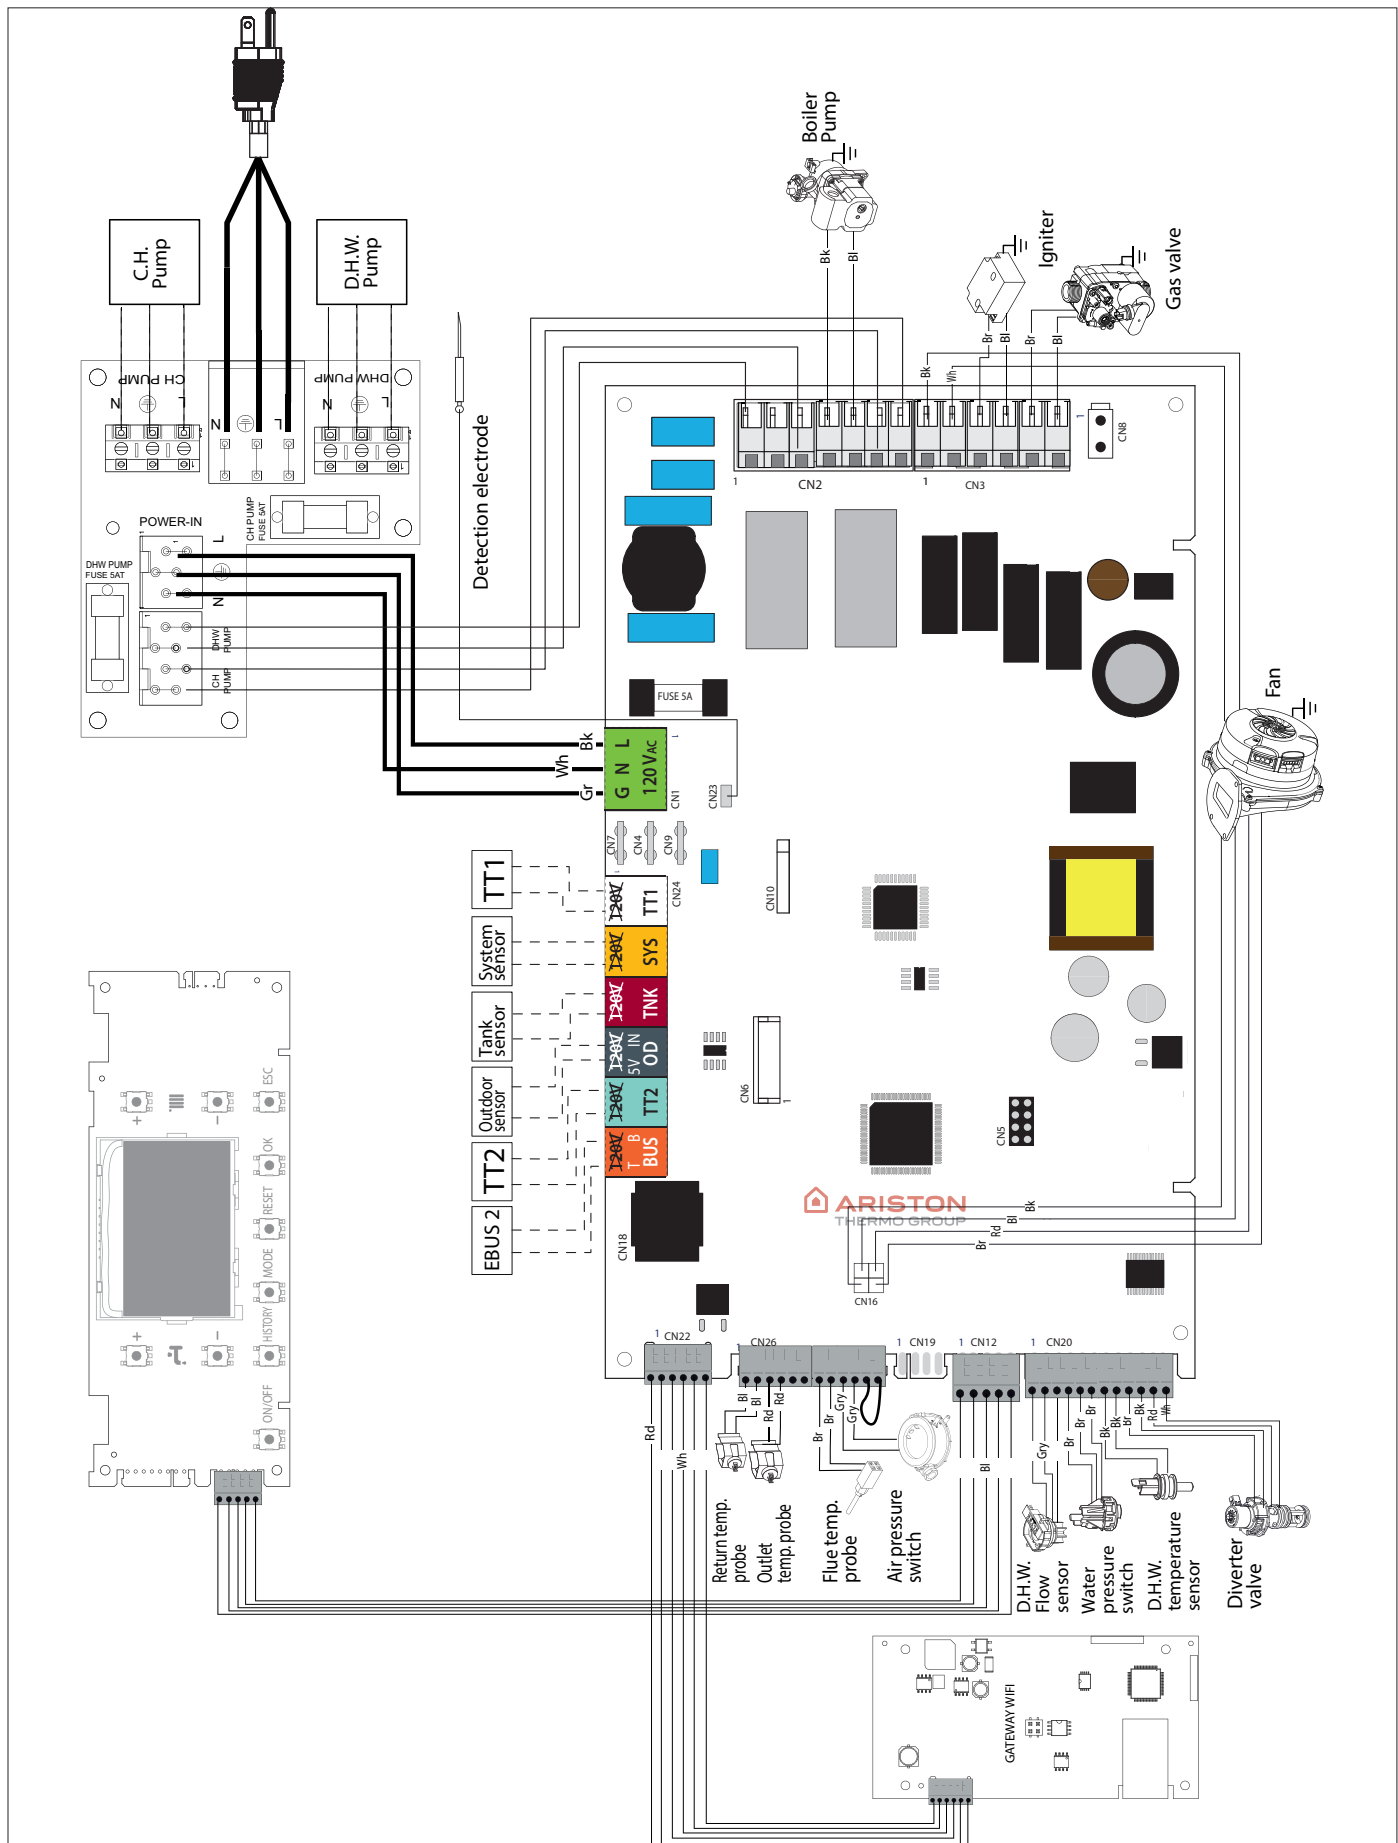

Figure 54 - Electrical Wiring Diagram
6. Connect the cable on the connector CN5 (CH pump) and CN4 (DHW pump). See Electrical Wiring Diagram, Figure 54.